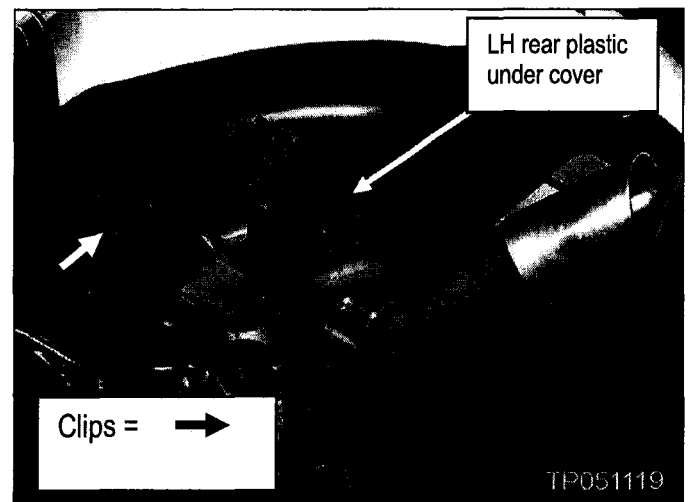

Figure 5
5. Release clips and remove the driver's (LH) side rear plastic under cover (see Figure 5).